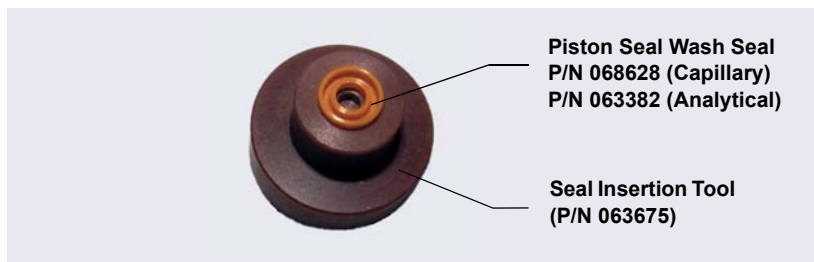

Figure 9-8. *Piston Seal Wash Seal and Seal Insertion Tool*
- b. Slide the new seal wash seal, with the open side of the seal facing upward, onto the seal insertion tool (P/N 063675) (see Figure 9-8).